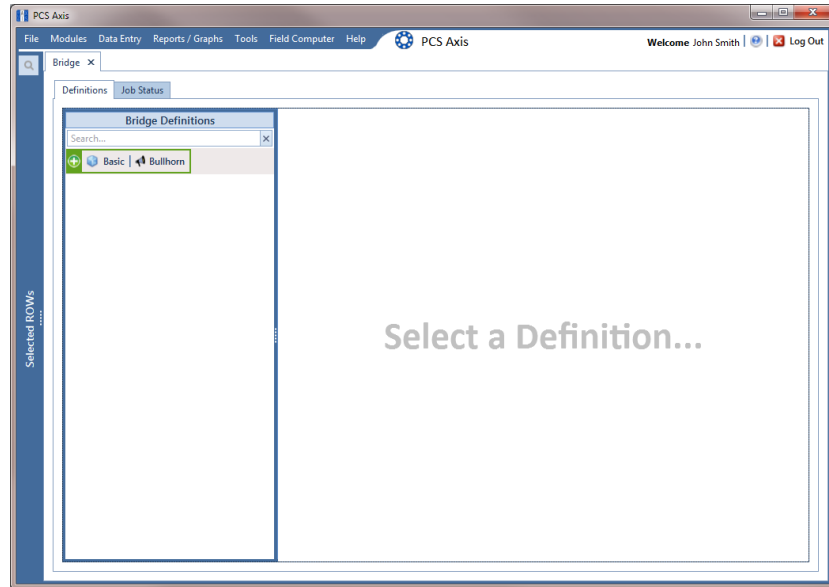

Figure 10-41. Bridge
- 2 Click **Tools** > **Bridge** to open the *Bridge* window (Figure 10-41, page 528)